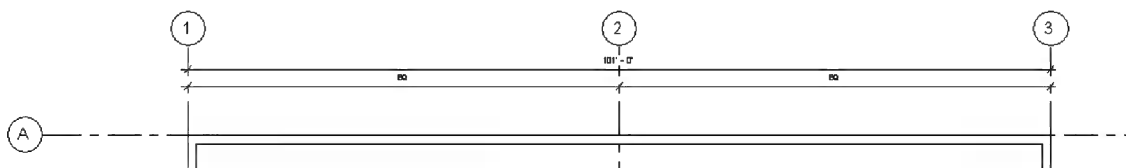

FIGURE 2-1.11 Overall building dimension added
27. Using the **Aligned Dimension** tool, add a dimension from grid line 1 to grid line 3 and then pick to position the dimension line (Figure 2-1.11).